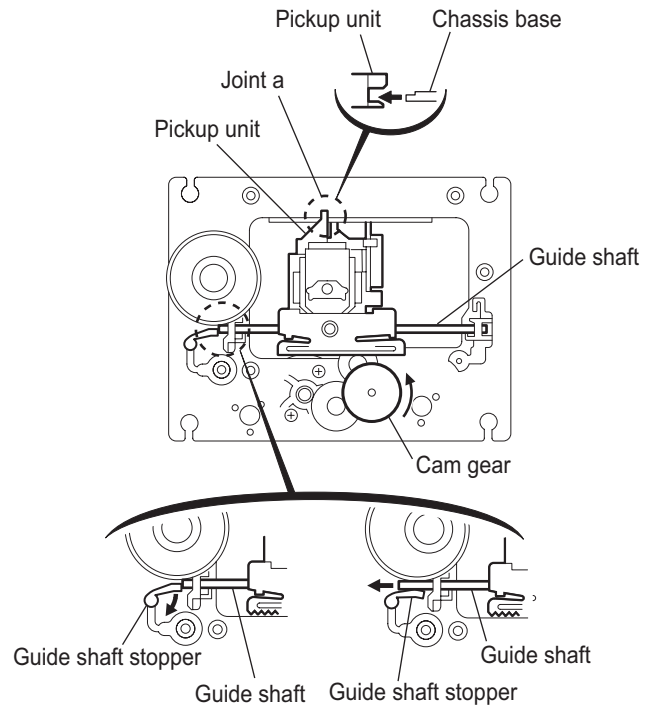

Fig.24
3.3.11 Removing the Pickup unit (See Fig.24 and 25)